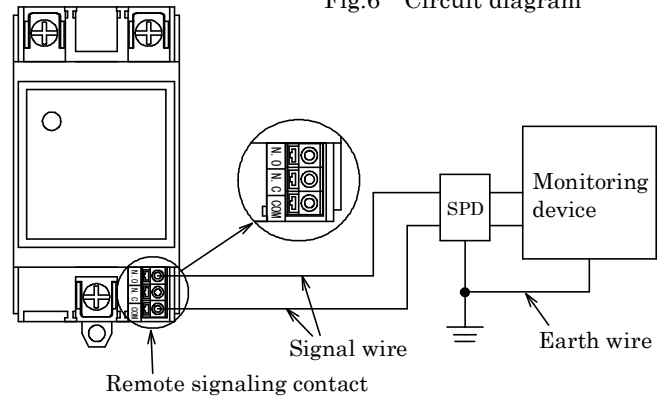

Fig.7 Connection of signal wires (Normally open)
- 3) When the monitoring device is far from SPDs, please install the SPD for protecting the monitoring device from induced lightning on the signal wires. (Ref: Fig.7)